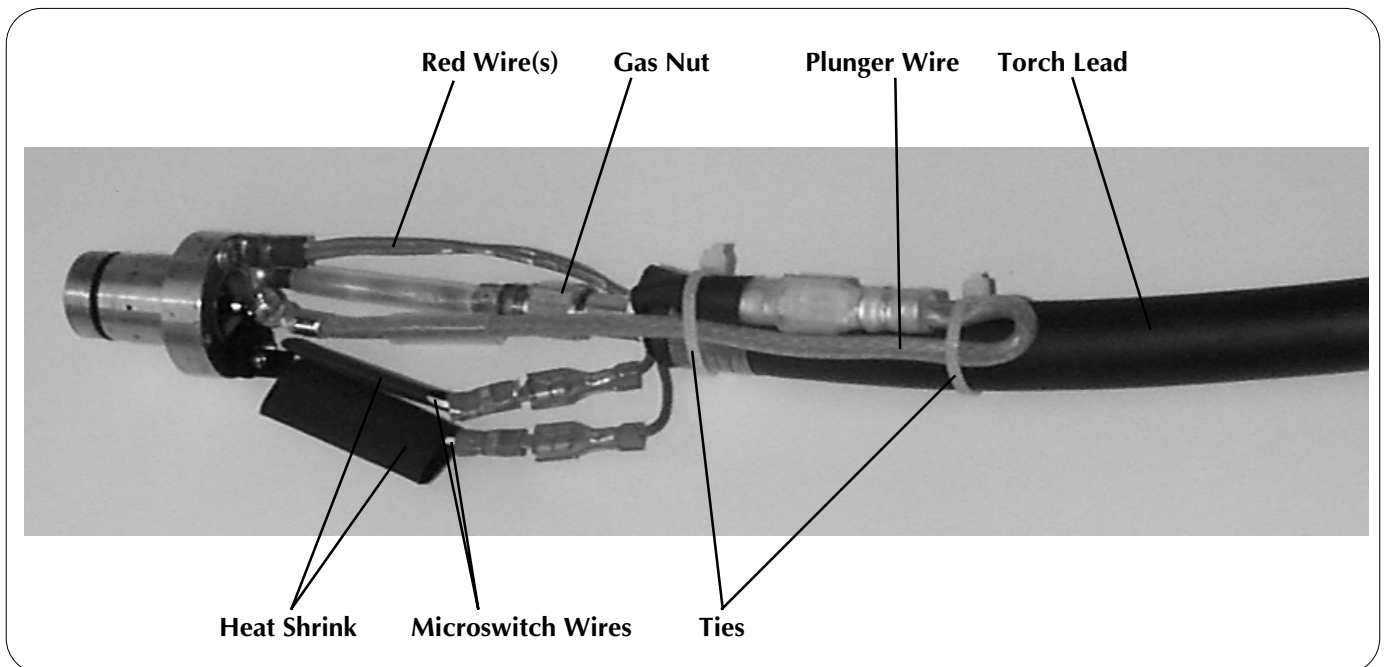

Figure 2 PAC121M/40cs Torch Body Replacement
6. Tie the plunger wire back on the torch lead as shown in Figure 2. With the ties in place and snugged down, adjust the wire so that there is 1/4" (6 mm) of slack between the wire and the gas nut.